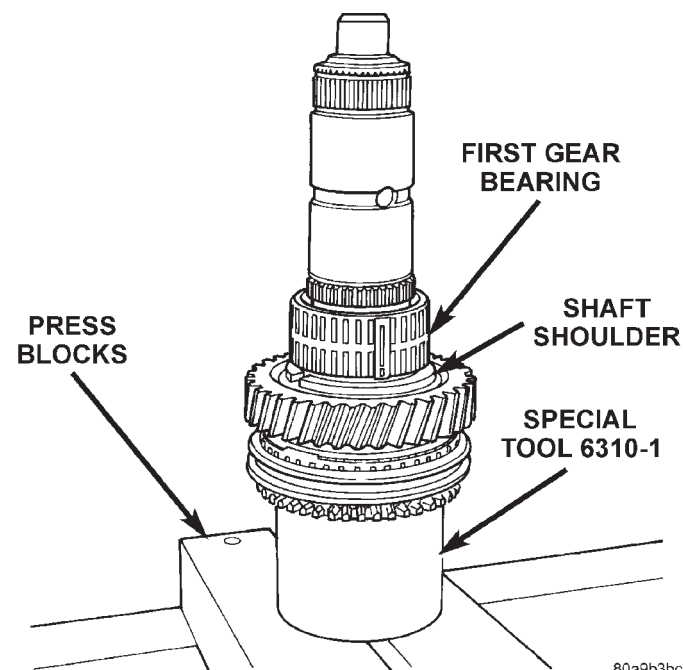

Fig. 61 First Gear Bearing Installation
(13) Invert output shaft and set the shaft in Remover 6310-1 so that fifth gear is seated on the tool (Fig. 61).
(14) Install first gear bearing on output shaft (Fig. 61). Be sure bearing is seated on shaft shoulder and is properly joined.